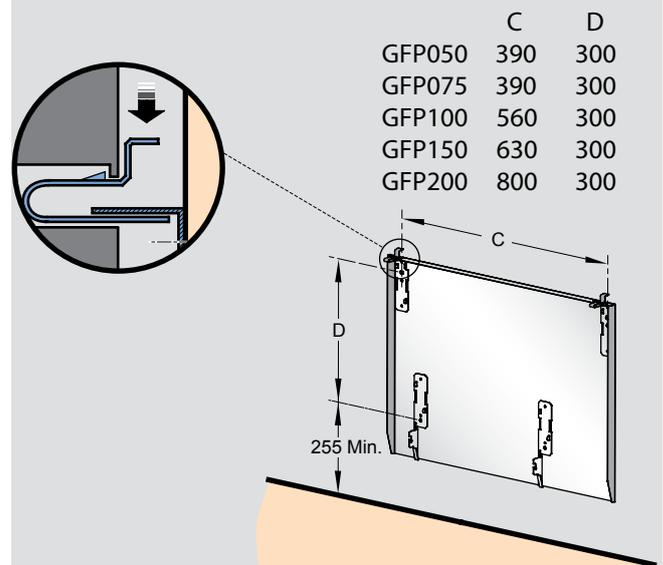

Fig. 3
1. Remove the wall mounting bracket from the back of the heater by depressing the spring latch at the top of each bracket - see **Fig. 3**.
To release the heater from the wall bracket for cleaning or redecoration, depress the latch on both brackets (See **Fig.3**) and hinge forward.